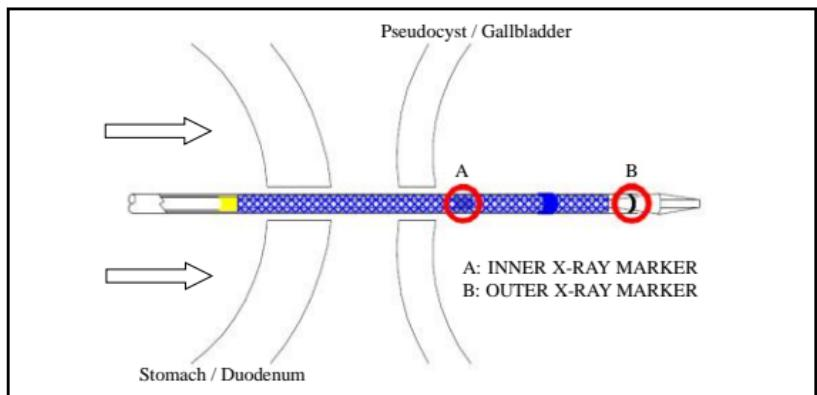

Figure 3
- Under the fluoroscope and endoscopic guidance, position the Electrocautery Stent Delivery System [HDS-10]. Inner X-ray marker ('A' of Figure 3) should pass through the wall of a pseudocyst or gallbladder.